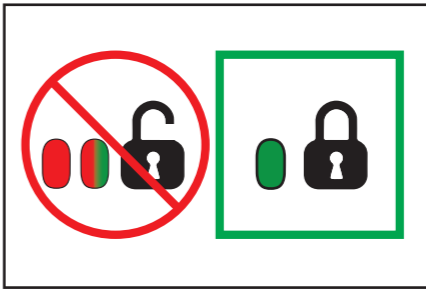

figure 2
- 1.7 **ALWAYS** check that the ladder lock indicators below each extended section are 'full green' and ensure that all related ladder locks are correctly fully engaged before attempting to climb the ladder (see figure 2).
- 2.5 Check all ladder lock indicators (immediately below each extended section) are showing 'full green' (see figure 2).